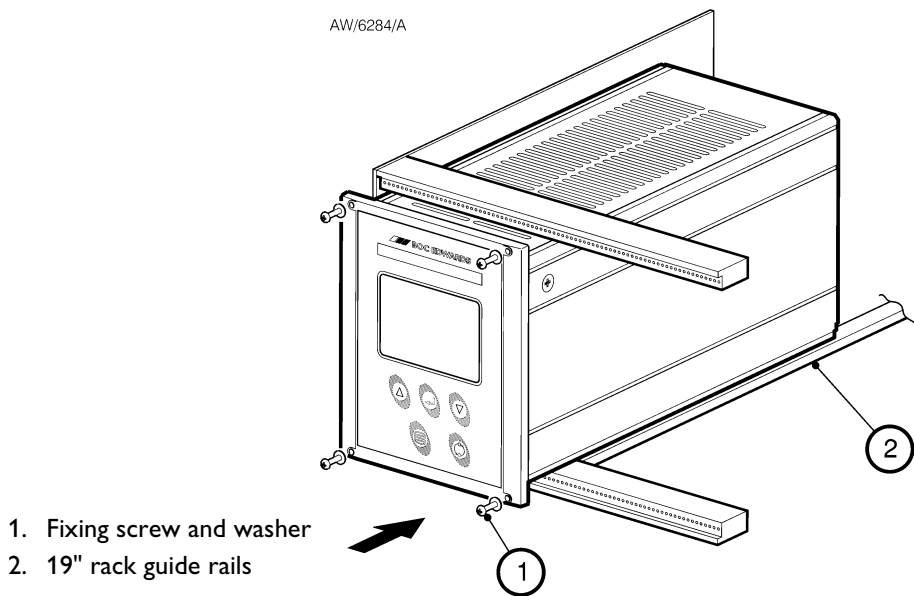

Figure 9 - Rack mounting of a TIC
- Slide the Controller into the 19" rack. The use of 19" rack guide rails (Figure 9, item 2) is recommended.
- Fix the Controller in place using the four screws removed previously (Figure 9, item 1).